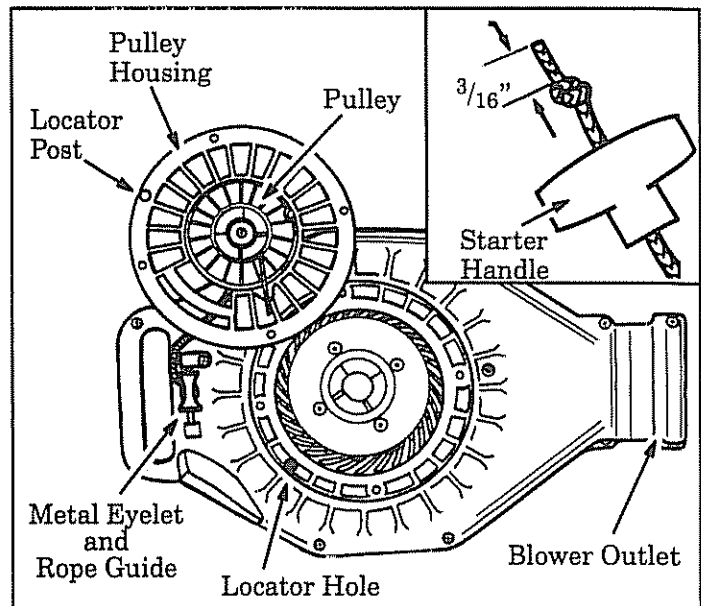

Figure 6
2. Set the unit on a flat surface as shown in Figure 6.
3. Remove the Pulley Housing Screws and the Pulley Housing from the Engine. Figure 6.
8. Insert one end of the rope through the starter handle and secure with a knot. Leave 3/16" pigtail behind the knot. Figure 6 (Inset).
9. Insert the other end of the rope through the Metal Eyelet, then over the Rope Guide. Figure 6.
15. Align the locator post on the pulley housing with the locator hole on the fan housing. Figure 6. Reassemble the Pulley Housing to the engine. Tighten screws securely.